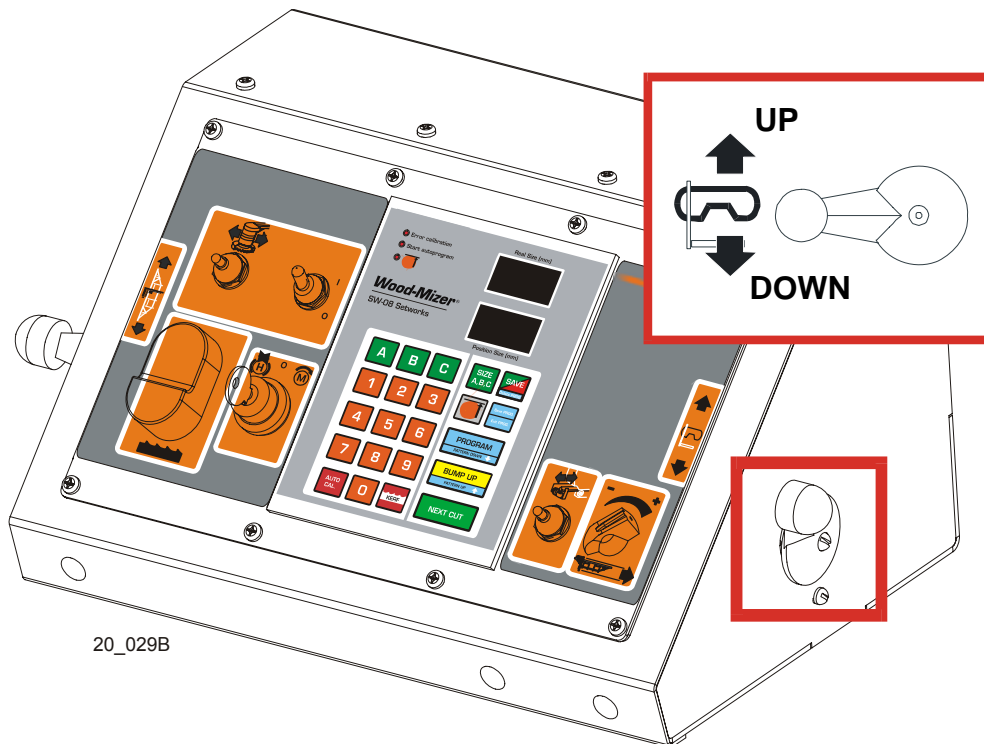

FIG. 3-18
**See Figure 3-18.** The up/down switch is located on the right side of the control panel. Push the switch up to raise the cutting head; push the switch down to lower the cutting head. Hold the switch in position until the cutting head reaches the desired height, then release.